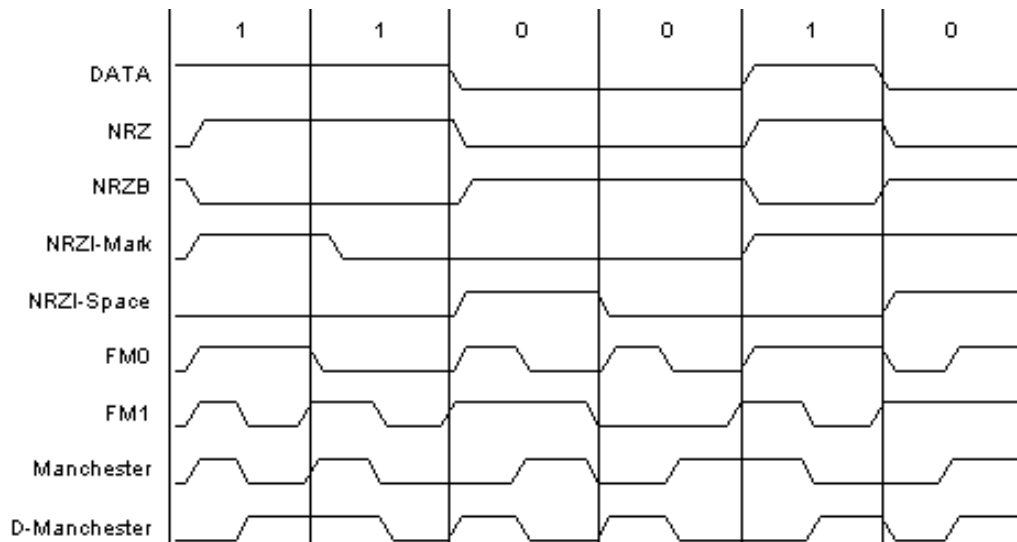

Figure 27: Data coding example
<ul style="list-style-type: none"> ■ NRZI-Space (011). A 0 is represented by a transition at the beginning of the bit-time; the level that appears during the previous cell is reversed. A 1 is represented by the absence of a transition at the beginning of the bit cell. ■ FM0 (100). A 0 is represented by a transition at the beginning of the bit-time followed by another transition in the middle of the bit-time. A 1 is represented by a transition only at the beginning of the bit-time. ■ FM1 (101). A 1 is represented by a transition at the beginning of the bit-time followed by another transition in the middle of the bit-time. A 0 is represented by a transition only at the beginning of the bit-time. ■ Manchester (110). A 1 is represented by a high level during the first half of the bit-time and a low level during the second half of the bit-time. A 0 is represented by a low level during the first half of the bit-time and a high level during the second half of the bit-time. ■ Differential Manchester (111). A 1 is represented by a transition at the center of the bit-time, with the opposite polarity from the transition at the center of the preceding bit-time. A 0 is represented by a transition at the center of the bit-time with the same polarity as the transition at the center of the preceding bit-time. In both cases, there are transitions at the beginning of the bit-time to set up the level required to make the correct center transition. <p>See Figure 27, "Data coding example," on page 233 for an illustration of the transmit and receive coding methods.</p>
Figure 27 shows the different transmit and receive coding methods.